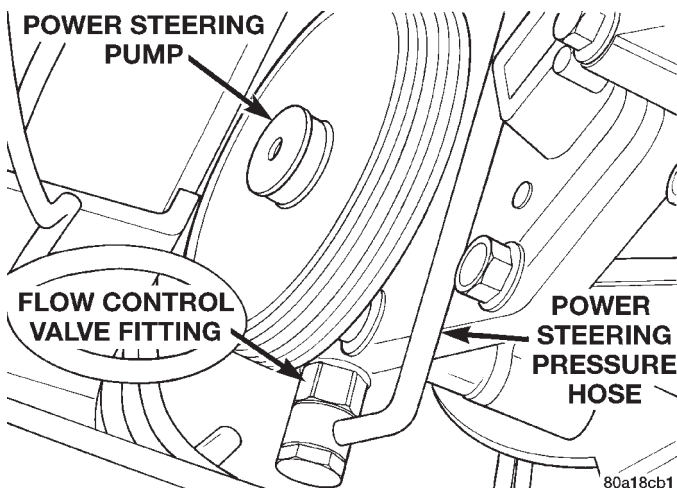

Fig. 3 Power Steering Pump Pressure Hose
- (1) Check power steering pump drive belt tension and adjust as necessary.
- (2) Disconnect power steering fluid pressure hose (Fig. 3), at power steering pump. Use a container for dripping fluid.